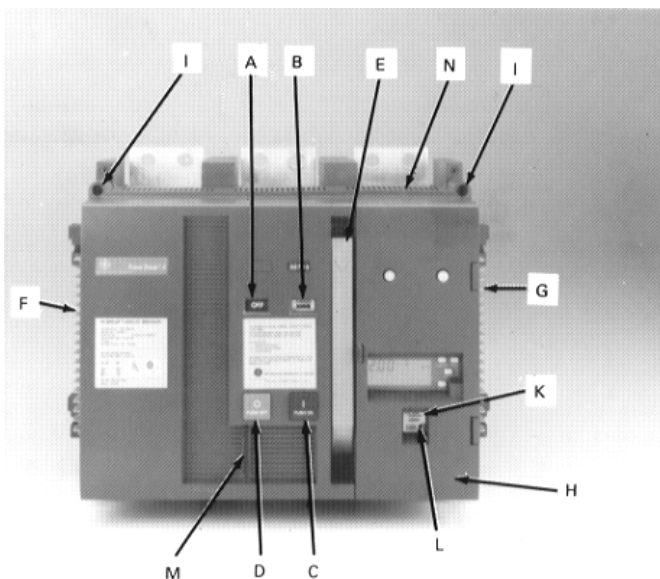
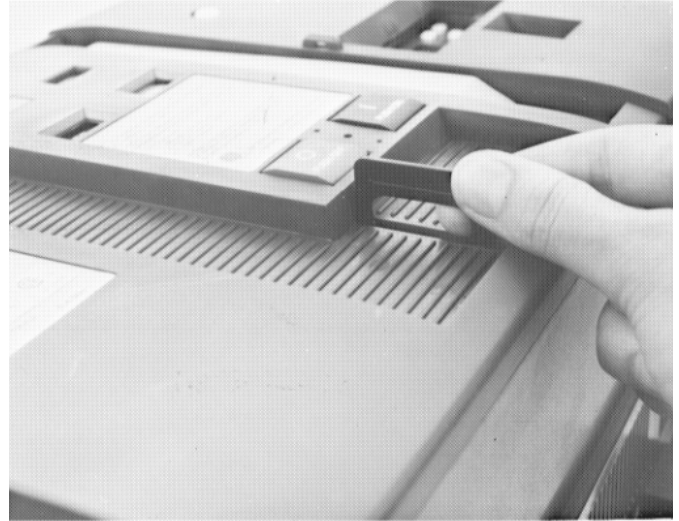

Figure 6. Front of the breaker, showing the locations of standard features.
Figure 8. Side view of the breaker, showing the padlock tab extended.
Power Break II breaker are equipped with the following standard features. The letters are keyed to the breaker photographs in Figures 6 and 7.
2. Grasp the padlock tab (see Figure 6) and pull it out until it is fully extended, as illustrated in Figure 8. Note that if the breaker contacts are closed, the padlock tab will not extend.